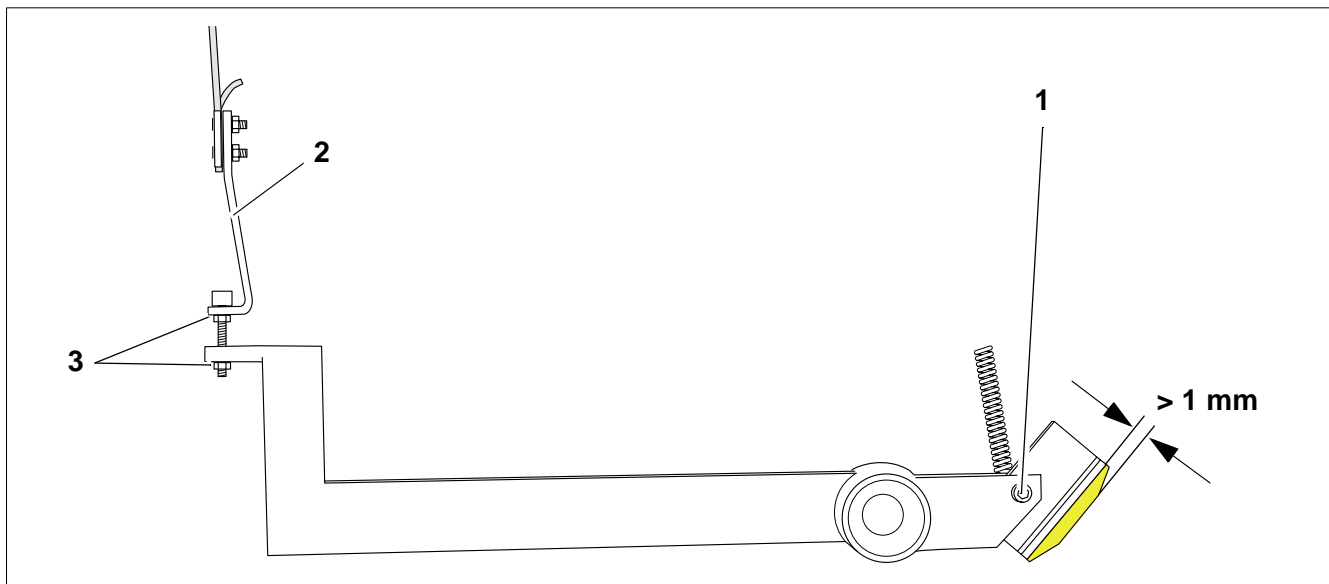

Fig. 22
- Check the brake linings. If the brake linings are thinner than 1 mm, they must be replaced (Fig. 22).
- Remove the old lining by loosening screw (pos. 1 / Fig. 22).
- After adjustments, make sure the brake wire link is oriented according to pos. 2 / Fig. 22. Lock its position using the nuts (pos. 3 / Fig. 22).